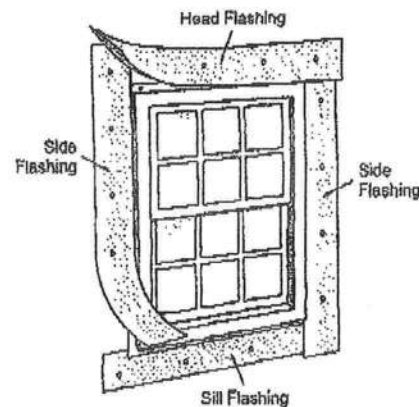
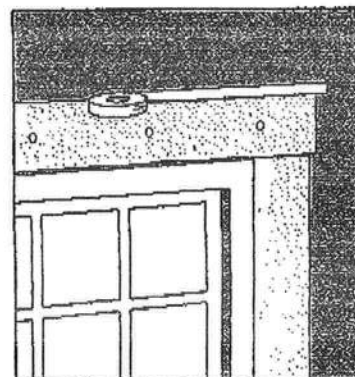

Figure 6
Figure 7
12. Use a 6" felt paper, or equivalent, flashing over the nail fin on jambs first. Flashing should extend 6" above the head of the window and 6" below the sill of the window. Apply the flashing at the head and overlap the jamb flashing on either side. (See Figure 6) The head flashing should be caulked or taped on the top edge. (See Figure 7)